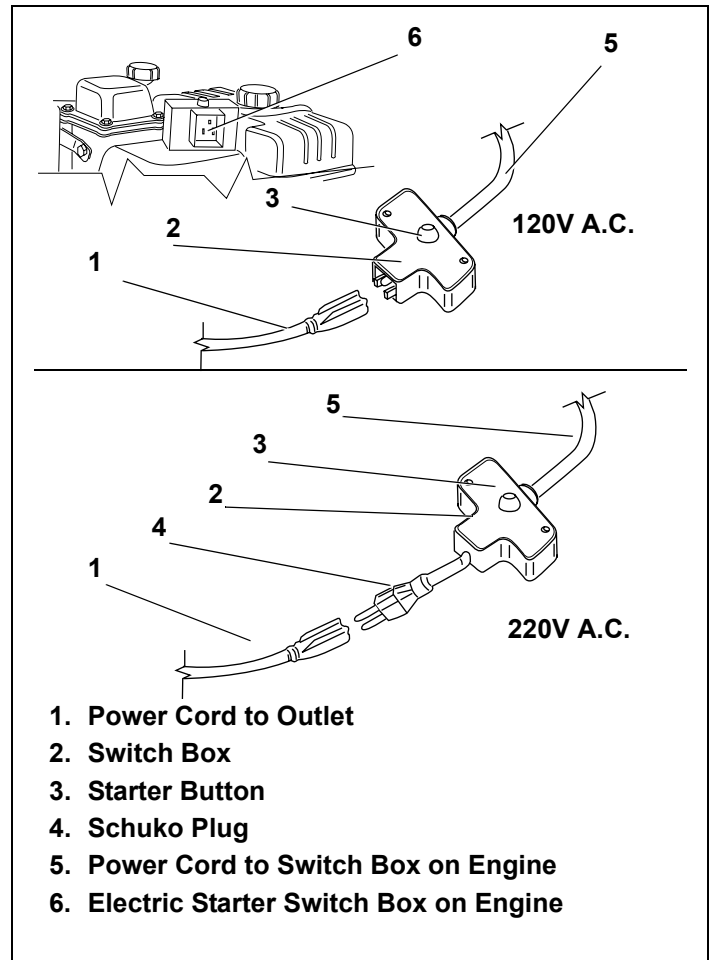

Figure 20. Electric Starter Connections
*When connecting power cord, always connect power cord to switch box on engine first; then into outlet. See Figure 20.*
- Connect power cord to switch box on engine. See Figure 20.
- a. Release starter button or ignition switch key. See Figure 20 on page 10. Afterward, continue reading instructions below.
*When disconnecting power cord, always disconnect power cord from outlet first; then disconnect power cord from switch box on engine. See Figure 20 on page 10. Afterward, continue reading instructions below.*
13. Disconnect power cord from outlet. See Figure 20 on page 10. Afterward, continue reading instructions below.
14. Disconnect power cord from switch box on engine. See Figure 20 on page 10. Afterward, continue reading instructions below.